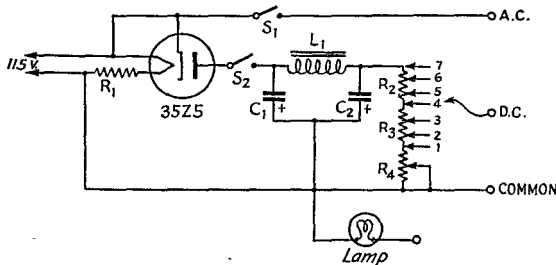

Fig. 2 — Circuit diagram of the transformerless power supply.
**Apparatus:** A source of d.c. voltage variable from zero to about 100 volts is needed for this experiment. The circuit shown in Fig. 2 is convenient, since it provides for continuous adjustment of the voltage to any value within the range. It is a "transformerless" supply also adaptable to subsequent experiments.
**Procedure:** The initial adjustment of the taps on the power supply output resistor or "bleeder," consisting of  $R_2, R_3$  and  $R_4$  in series, illustrates the principle of Ohm's Law. Before making the permanent connection between  $L_1$  and the top end of  $R_2$ , insert the milliammeter between these two points, using the 100-ma. scale (or the nearest to that provided by the instrument used), close  $S_2$  and measure the current. Take readings with  $R_4$  set at zero and at maximum. Remove the milliammeter and make the permanent connection between  $L_1$  and  $R_2$ . Now read the output voltage (across the whole bleeder) at the two settings of  $R_4$ . With the constants given in Fig. 2, the following readings will be typical: